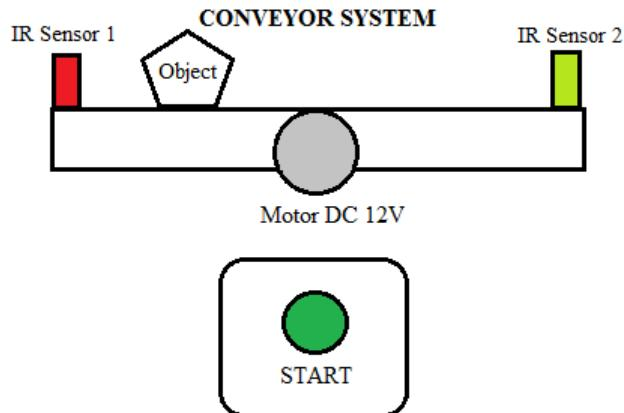

Figure B1 / Rajah B1
- CLO1 Figure B1 illustrates the conveyor system controlled PIC18F45K22. There are two industrial IR sensors (NPN output) connected to PIC18 at pin RD0 and RD1 respectively. Start switch (push button) is connected to pin RD2. PIC18 interface with a DC motor using two relays in order to control motor in bidirectional while it is connected to pin RD3 and RD4. This system works by moving object from IR sensor 1 to IR sensor 2 and back to IR sensor 1 as shown in Table B1.